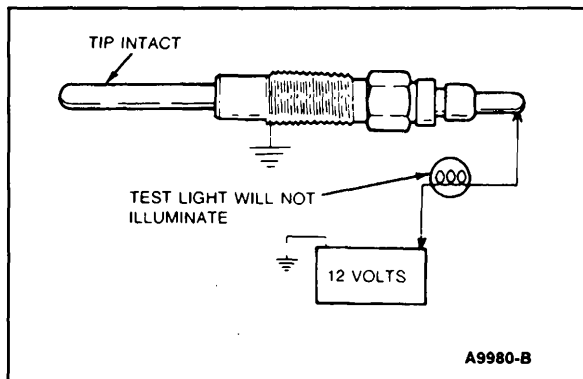

Figure 22 Electrically Open
- There is no visible damage, but glow plug is electrically open (Fig. 22). This indicates an internal heating element failure.